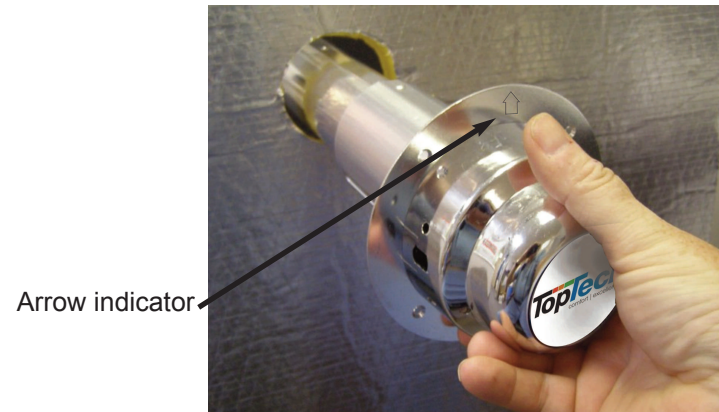

Figure 5
- Insert probe into opening with the arrow indicator going in the same direction as the airflow of the hvac unit. Once attached to duct, press firmly all around flange to ensure a proper seal, refer to Figure 5.